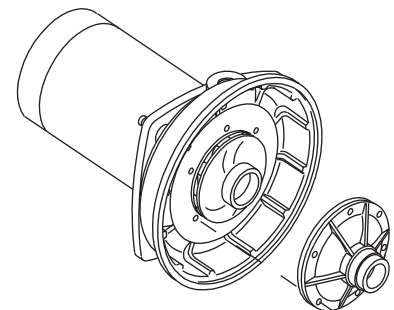

Figure 6
4. Remove five screws and washers holding diffuser to seal plate. Remove diffuser (See Figure 6).